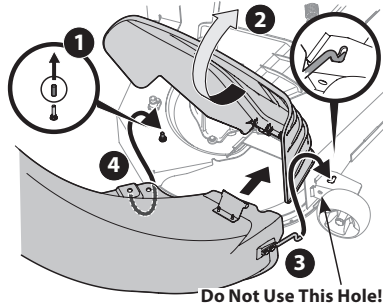

Figure 17
2. Remove the deck pin rubber protective cap, 1 in Figure 17.
3. Raise the chute deflector (2 in Figure 17) on the deck and hold it while you position the boot over the chute opening.
4. Insert the end of the boot elbow (3) into the hole provided in the deck wheel mount as shown in the inset of Figure 17.
5. Pivot the boot rearward until the hole in the boot elbow aligns with the pin on the deck. Move the boot elbow down onto that pin as shown in 4 of Figure 17.